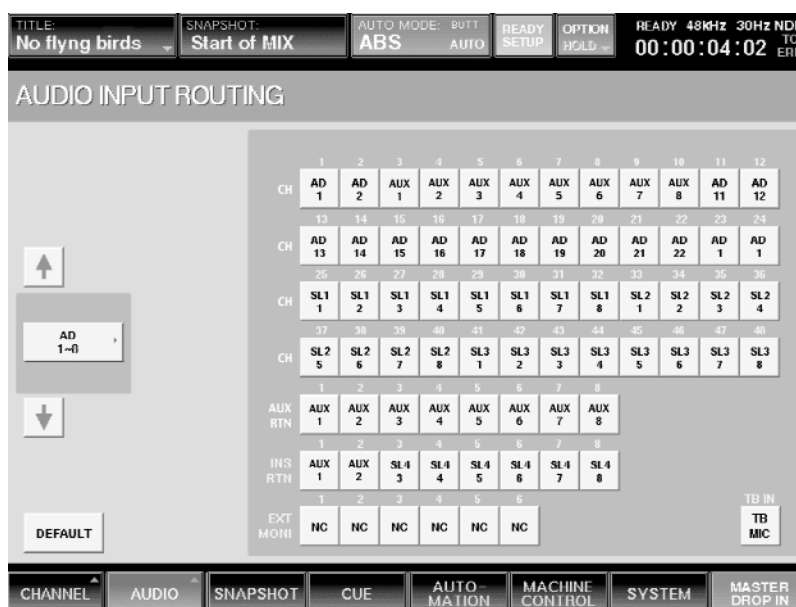

Figure 31
- 9 Now press 2 in the AUX RET 1-8 Source drop-down menu, then press the INS RTN 2 button in the Channels section. Aux 2 will be selected for Insert Return 2. (See Figure 31)